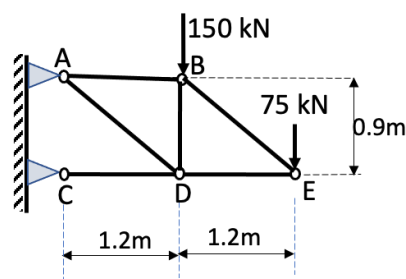

Figure Q3
- 3 For the steel truss shown in Figure Q3, what is the elongation of member AB given that AB is a solid rod of diameter = 20 mm and modulus of elasticity = 200 GPa. Select the closest answer from the following: